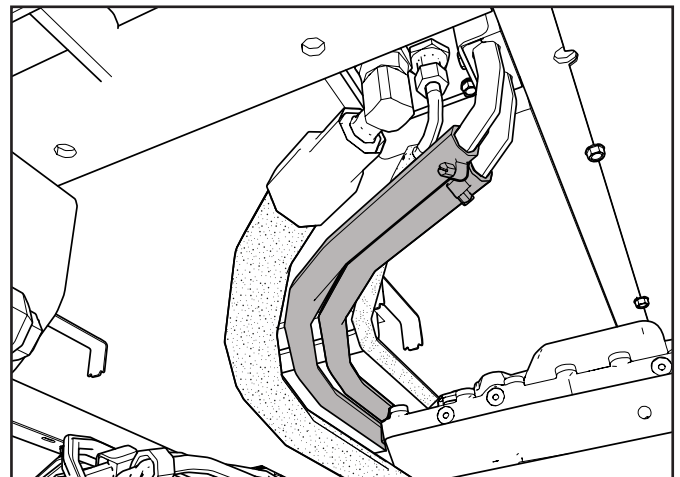

Figure 113
- Disconnect the coolant hose connected directly to the ventilation unit from the underside of the cab. (AC fluid Colored in grey, and coolant dotted in "Figure 113").